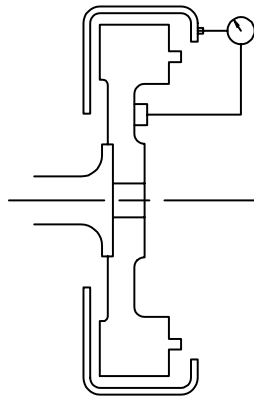

Figure 1. Checking Flywheel Housing Face
2. Bolt the indicator to the flywheel so the indicator is perpendicular to the flywheel housing face and the indicator stem rides on the flywheel housing face. See Figure 1.